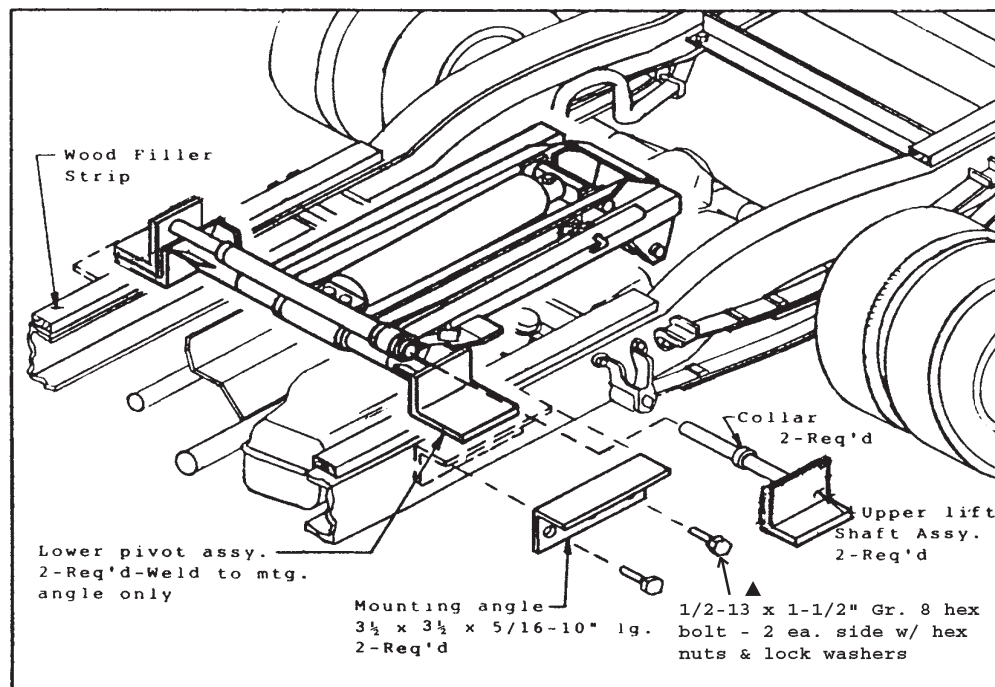

Figure 3 Mounting Angle/Lower Pivot Assembly
4. Locate the hoist on the truck frame, making sure to center and square the hoist to the truck frame. The VC-416/516 hoist is designed to rest on the truck frame as shown in Fig. 3. A section of the hoist extends below the truck frame level, thus the hoist may have to be moved slightly forward or backward to avoid frame crossmembers. The distance between the rear hinge assembly center and hoist dimension. Table "A", figure 1 refers to dump angles associated with the "M" dimension.
5. After the hoist is positioned, place a mounting angle (Fig. 3) under each of the lower pivots and against the truck frame. Clamp securely in place. Drill through the mtg. angle and frame ($17/32"$) and fasten mounting angle with two (2) 1-1/2" hex head grade 8 bolts, lock washers and hex nuts (both sides).
6. With the hoist lower pivot assys. clamped to the mounting angles ($3-1/2 \times 3-1/2 \times 5/16 - 10"$ lg.), weld the lower pivot assy. to the mounting angles. Position and secure the filler strips (wood or steel) to the truck frame (see fig. 3) The VC416/516 hoist requires at least $5-3/4"$ clearance above the truck frame.